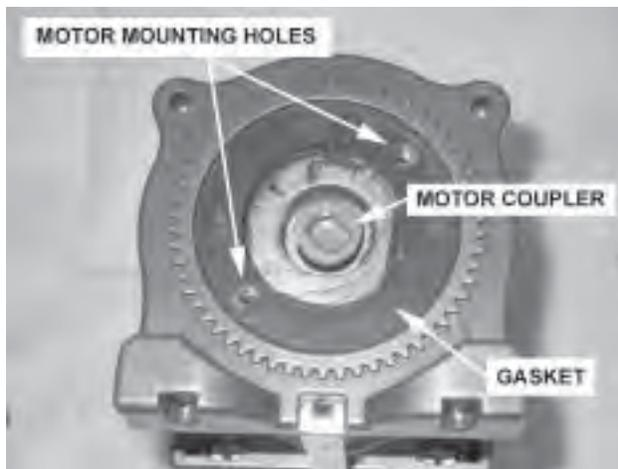
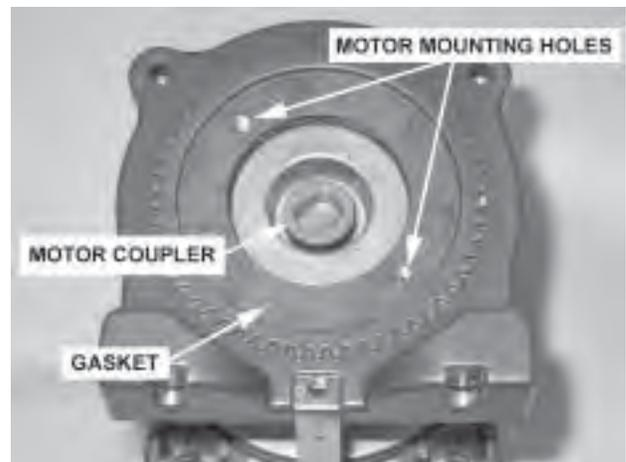

Figure 2
Figure 3
3. Place the mounting plate into position and bolt back two long tabs to your ATV using the supplied hex head hardware. There may be a space between the mounting plate and the tubes. Use the supplied spacer washers if needed. Do not tighten at this time "Figure 2"
6. Place the Skid pan back into position. The skid pan should fit behind the front two tabs on the mounting plate. Re-assemble the (4) bolts that were removed in Step 1 and replace the top (2) with the supplied Cap screws and lock washers.
"Figure 2"
4. Lift motor assembly off Drum Support. Rotate the gasket and Motor Coupler 90 degrees, see **Figure 2 and Figure 3**.